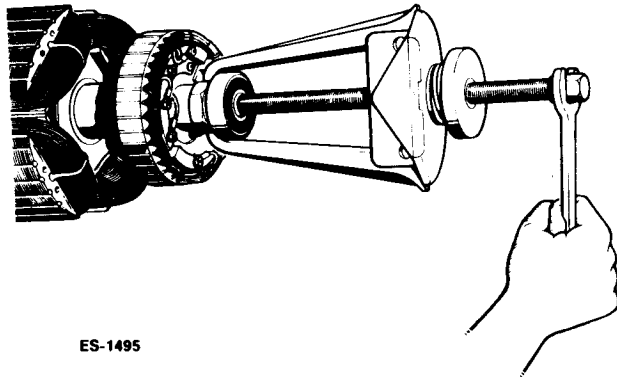

FIGURE 8-2. END BEARING REMOVAL
19. Use a gear puller to remove the end bearing from the rotor shaft (Figure 8-2). If reusing the bearing, be sure to apply puller to the inner race.